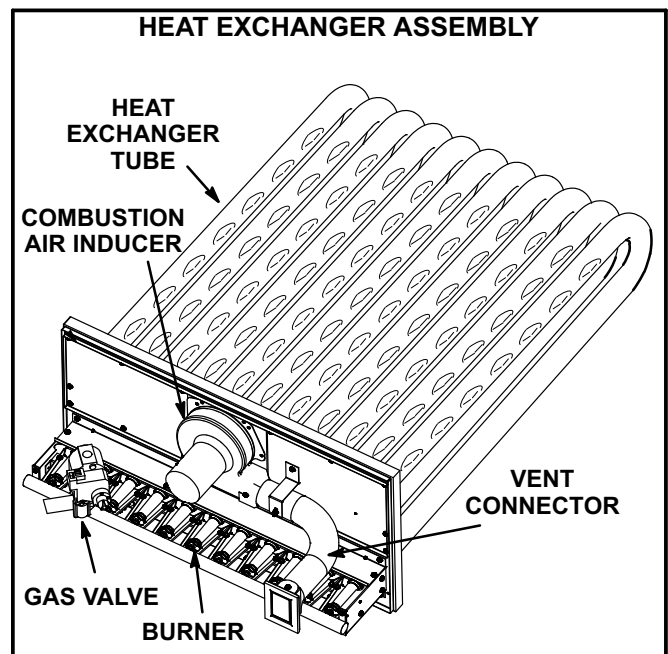

FIGURE 37
- 3- Remove and retain screws securing combustion air inducer to flue box. Remove and retain two screws from bracket supporting vent connector. See figure 37.